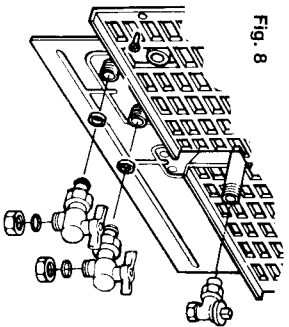

Fig. 8
5.3.4 Loosely fit (hand tight) the valves and fittings using the washers supplied (fig 8)
- 5.6.1** Figs 8 and 14 show the locations of the fittings.